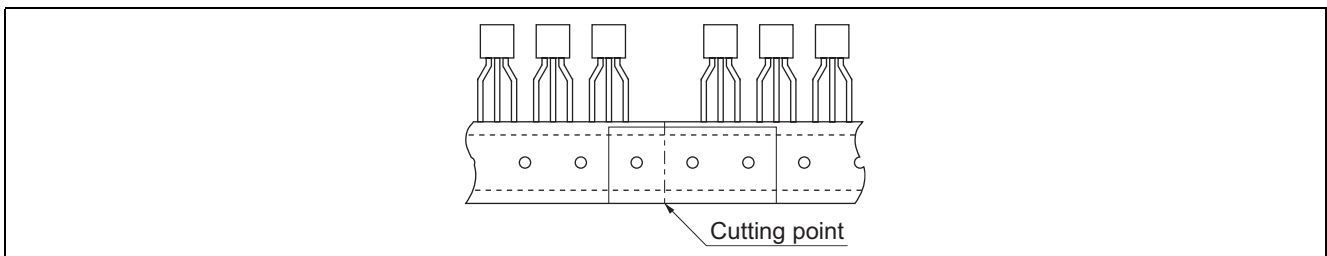

Figure 3 Splicing
- After cutting, tapes are spliced (in case of completion or cut of tape) by splicing tape as shown figure 3.